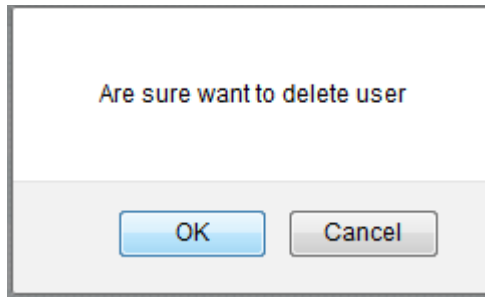

Figure 1.7
- The user receives the confirmation message and then click **OK** button. (Figure 1.7)The user is now removed from the system.